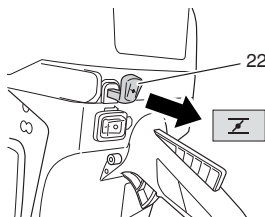

Fig. 23
2. Pull choke lever (22) fully to set it in the START position. (Fig. 23)